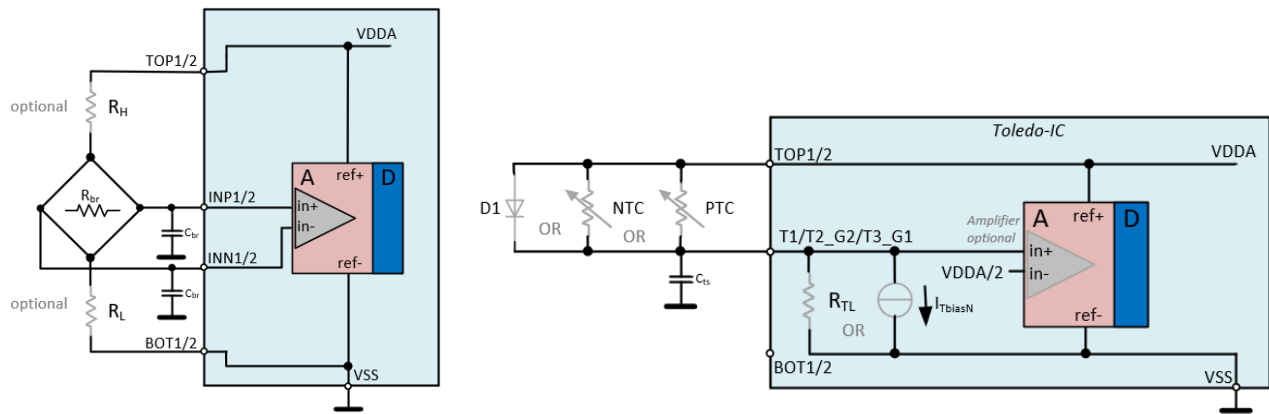

Figure 179. Cbr and Cts Capacitors
- Cbr [nF] and Cts [nF] fields: enter the values to the fields within the allowed range of 0nF to 2nF, the capacitors are displayed in Figure 179.